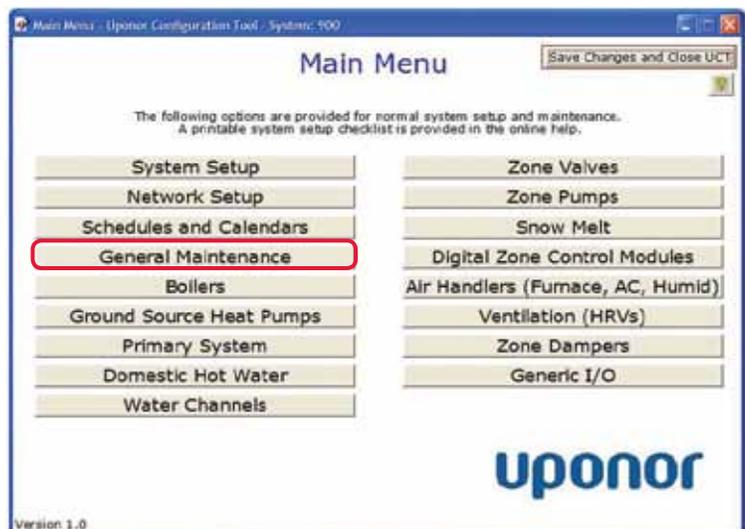
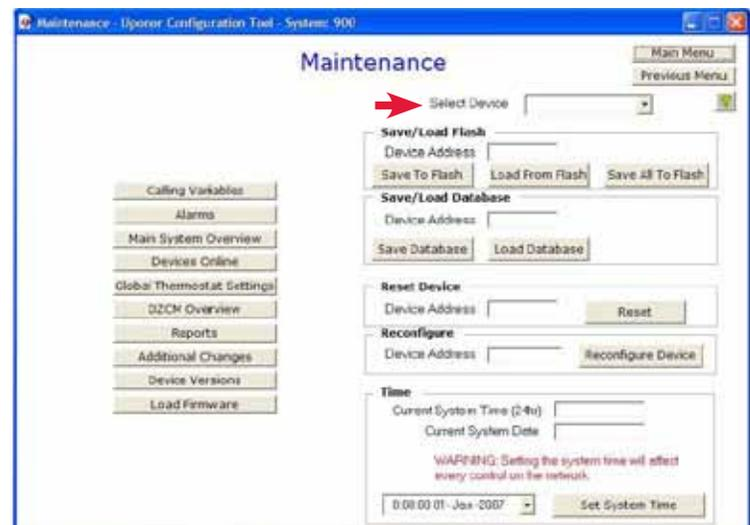

Figure 5.3-1: Main Menu Screen
Figure 5.3-2: Maintenance Screen
1. From the **Main Menu**, click the **General Maintenance** button shown in **Figure 5.3-1**. This displays the **Maintenance** screen shown in **Figure 5.3-2**.